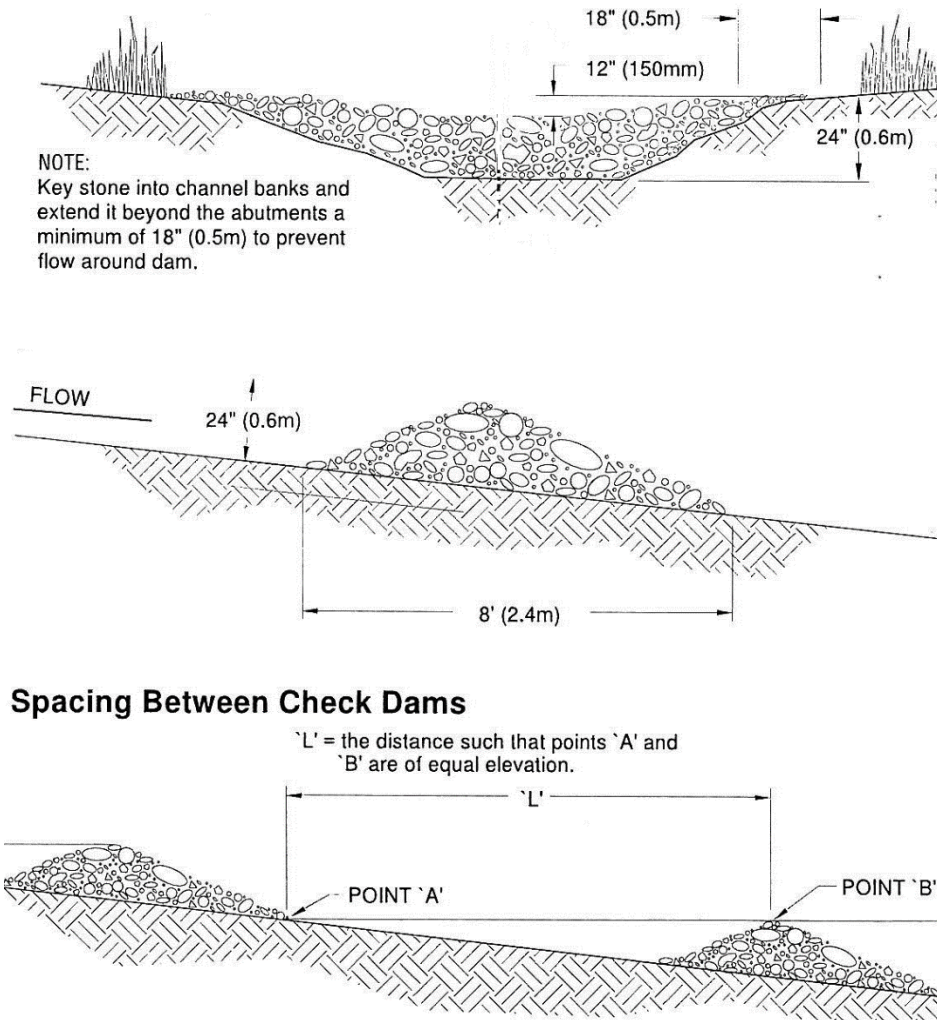

Figure 9. Schematic of check dam specifications.
- The dam should form a triangle when viewed from the side (Figure 9). This prevents undercutting as water flows over the dam.
- The maximum spacing between the dams shall be such that the toe (bottom) of the upstream dam is at the same elevation as the top of the downstream dam (Figure 9).